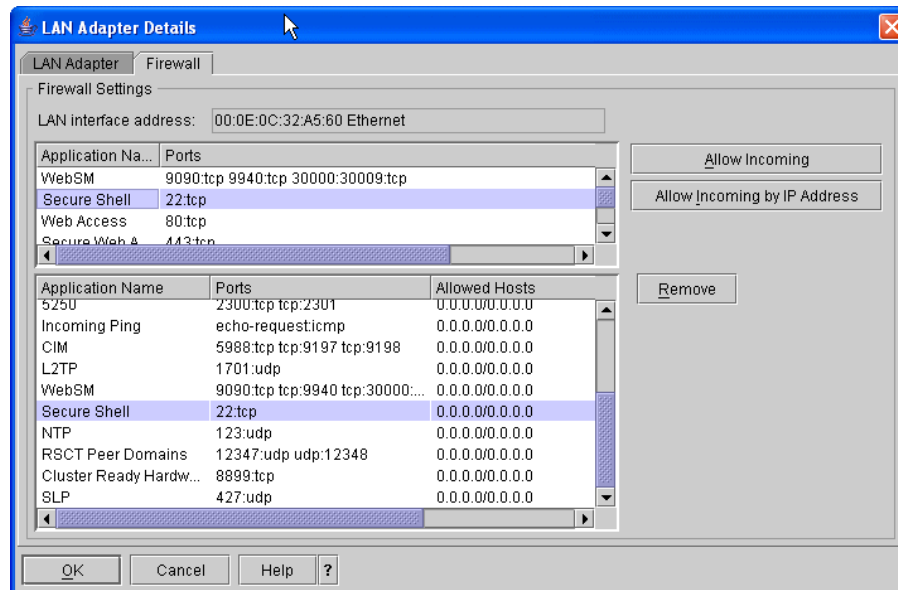

Figure 6 Firewall settings for eth1 interface
**HMC Configuration.** In the right panel select **Customize Network Setting**, press the **LAN Adapters** tab, choose the interface used for remote access and press **Details**. In the new window select the **Firewall** tab. Check that the ssh port is allowed for access (see Figure 6).